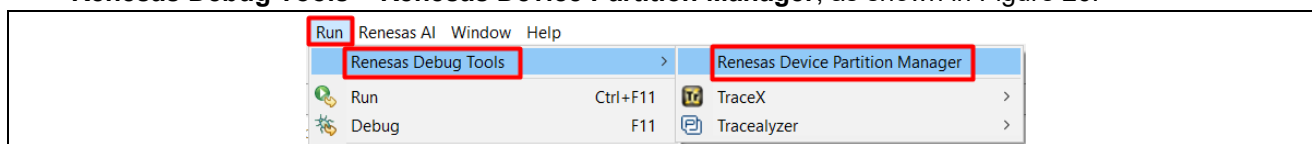

Figure 26. Open Renesas Device Partition Manager
- Open the Renesas Device Partition Manager. With the e² studio IDE, click the **Run** tab, then select **Renesas Debug Tools > Renesas Device Partition Manager**, as shown in Figure 26.